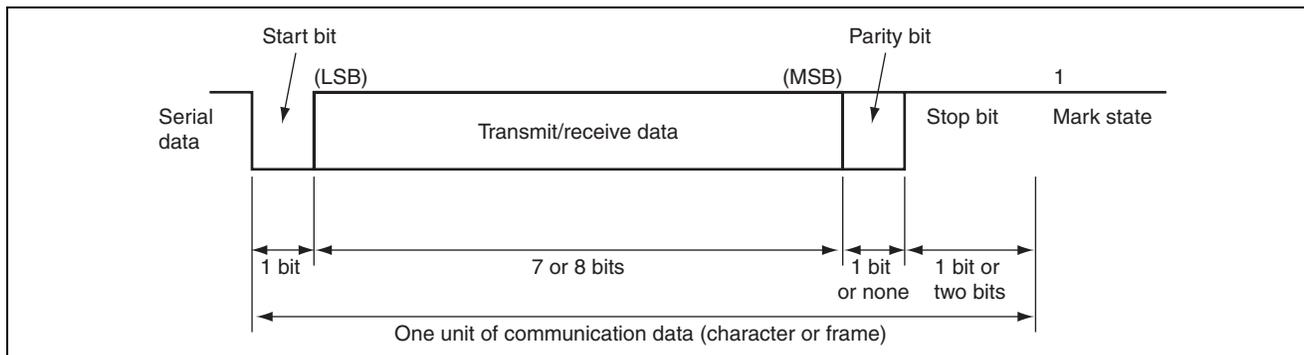

Figure 2.2 Data Format in Asynchronous Communications
- Figure 2.2 shows data format of asynchronous communications. In asynchronous communications, the communication line is normally maintained in the mark state ("High" level). SCI3 monitors communication line and starts serial communications when it detects the place which has become a space ("Low" level) to serve as a start bit.